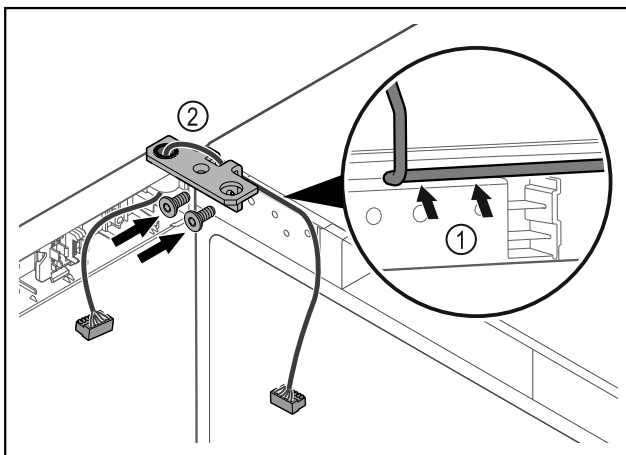

Fig. 65
- ▶ Feed the cable through the recess in the hinge and lay it carefully Fig. 65 (1).
- ▶ Screw on the hinge Fig. 65 (2).